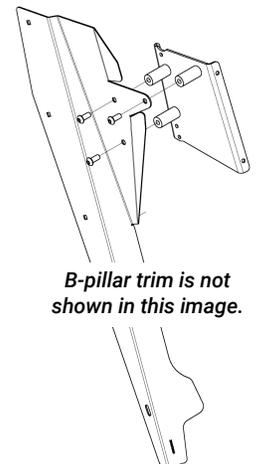

Figure 3
- Locate the Driver Mounting Plate [3PAK472010] and (3) button head screws [3X149].
- Align the (3) holes in the plate with the (3) standoffs protruding through the B-pillar trim and loosely secure with the button head screws (Fig 3). The fasteners will be tightened in a later section.